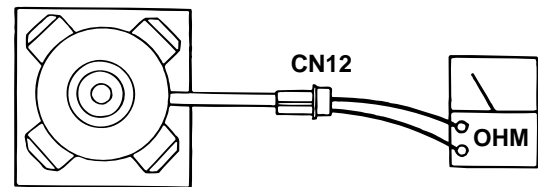

Figure 6-26. Motor Connector CN12
1. Using an ohmmeter R x 1 scale, measure the resistance between the two pins of CN12. See figure 6-26.